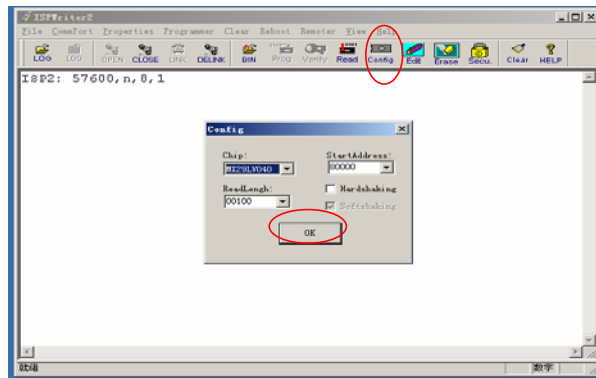

figure 3
4. Click config key, will show dialogue window like figure 3:choose the type of Flash at Chip dialogue window, if the chip is AMIC ,it will choose MX29LV040, SST should be choose SST29SF040,other option should the same with picture. Then click OK key;